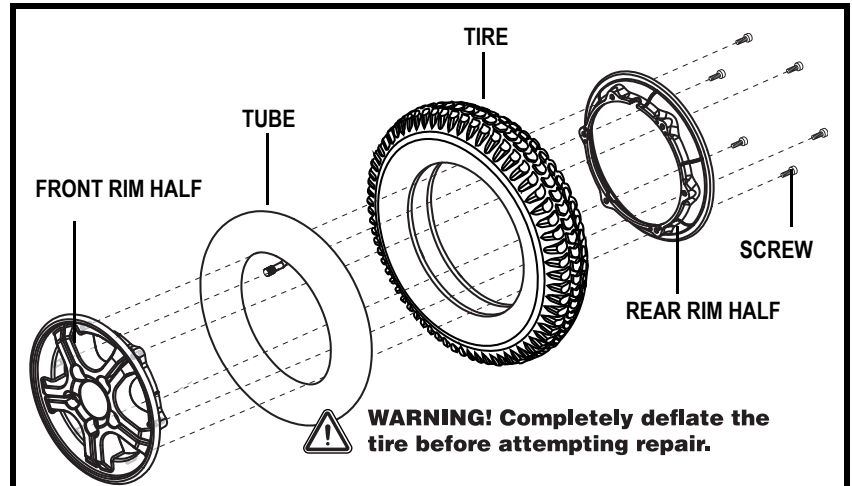

Figure 24. Drive Wheel Disassembled
6. Remove the screws and separate the front and rear rim. See figure 24.
10. Reinstall the five (5) lug nuts onto the wheel hub and tighten.